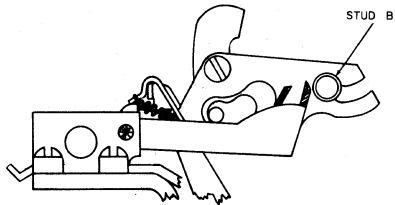
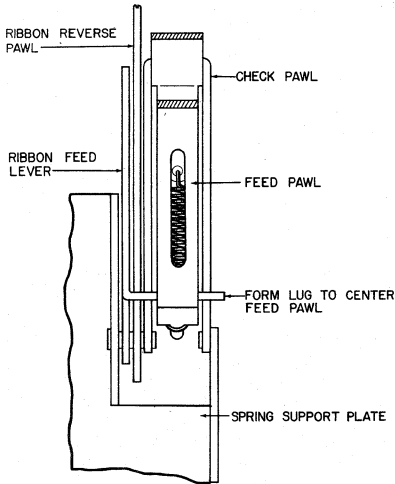

Figure 68
Figure 69
check pawl should operate freely without binds and when the ribbon reverse pawl is brought away from the center of the machine against the stud (B) (Figure 68), the ribbon feed and check pawl assembly must not bind against it when moved up and down several times. If this happens, remove the feed pawl and place a screwdriver in the check pawl and pry it away from the ribbon reverse pawl so that it doesn't bind against it. The feed pawl must not bind against the check pawl and must operate inside it freely. This freedom of movement can be obtained by forming the lug of the ribbon feed lever where it holds the ribbon feed pawl so that the feed pawl is centrally located in the check pawl (Figure 69). If the lug has to be formed, check to see that the ribbon feed lever operates freely throughout its travel and it rides against the ribbon feed and check pawl assembly bracket without binding against it.